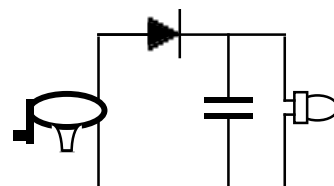
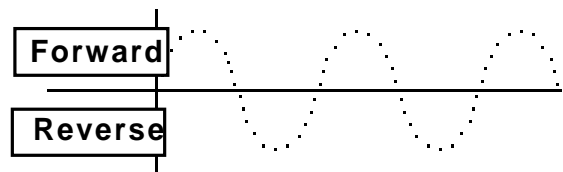

Figure 10.6c
Figure 10.7c
3. Connect the blue capacitor as shown in Figure 10.6c and record your observations.
2. In Figure 10.7c, sketch the voltage across the LED for a rectifier circuit like that shown in Figure 10.6c with a diode and a capacitor added to "fill in the gaps".